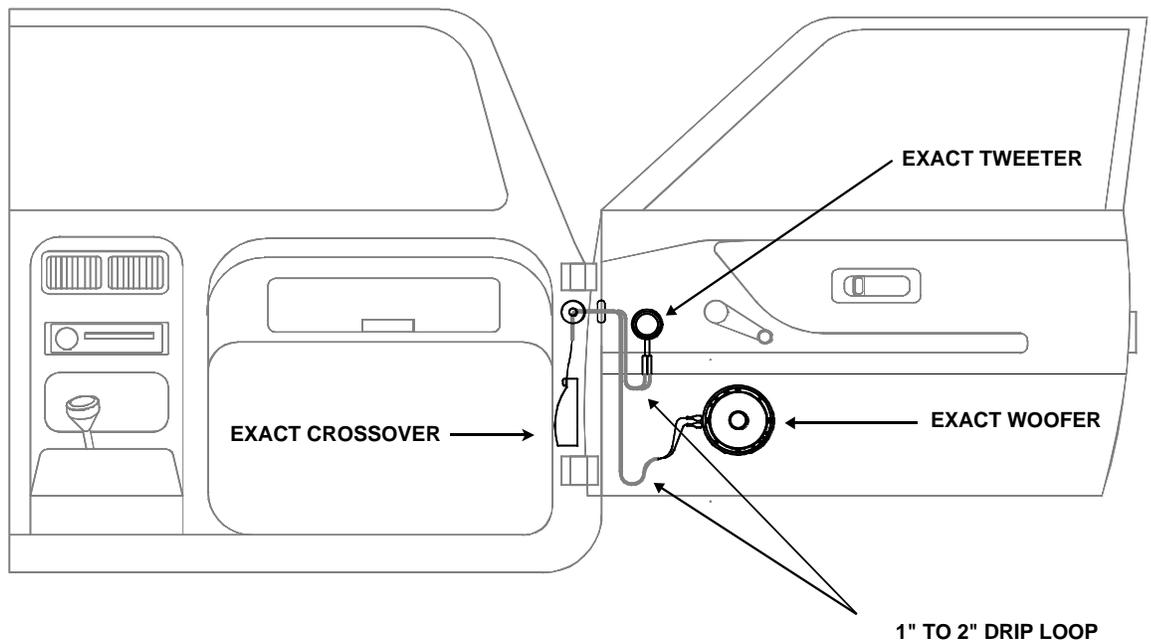

**FIGURE 5**
- 3) Mount the angle mount backplate with the two 1/2" flat head screws. See Figure 5.